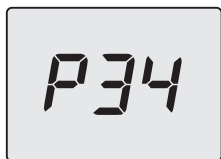

Fig. 10.4
- Scroll through the various parameters by pressing the keys 11 (back) or 13 (forward), until **P34**, which alternates with the parameter value, appears on the LCD display (Fig. 10.4).